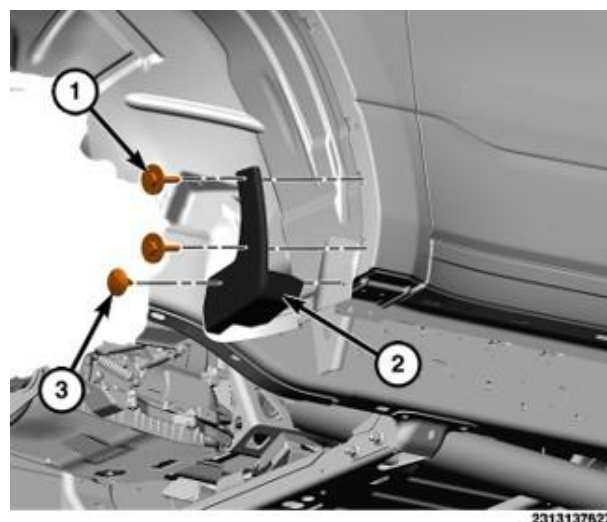

Figure B1 – Spats
3. Remove the screws, if equipped (Figure B1).
4. Remove the push pin fastener and remove the spat (Figure B1).